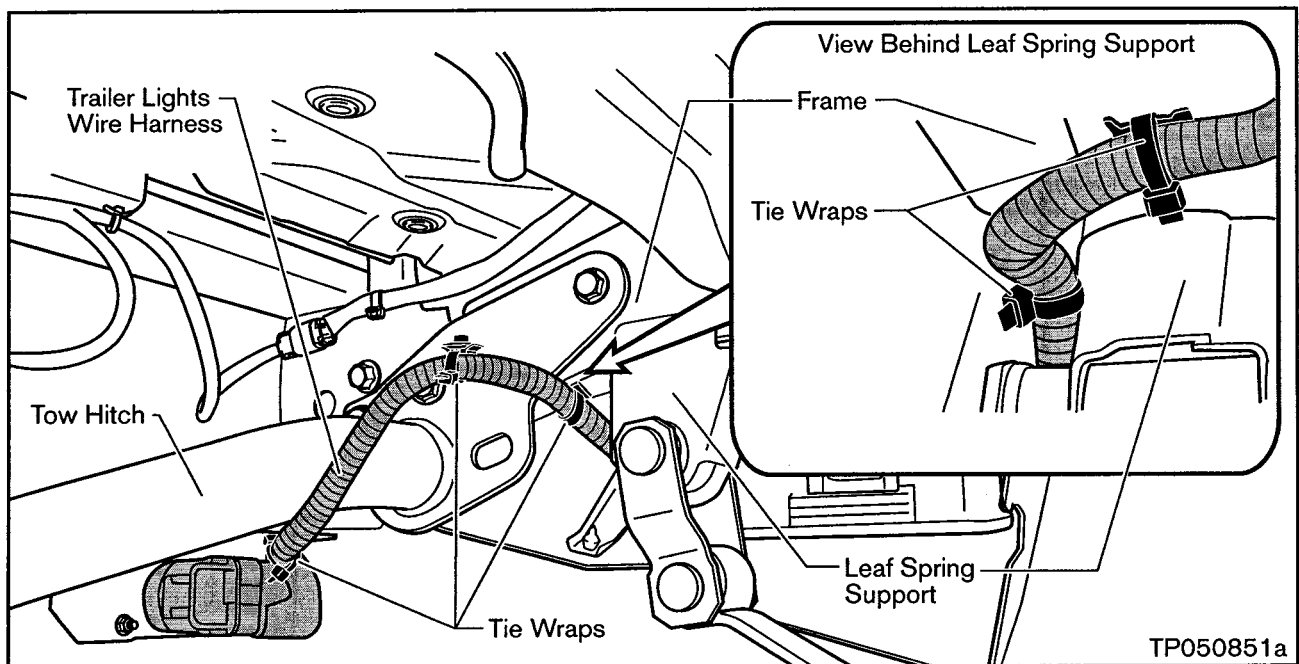

Figure 6
- Using a suitable pry tool, remove the Harness Tie Wraps from the Frame and Leaf Spring Support (see Figure 6). These Tie Wraps may get damaged during removal.